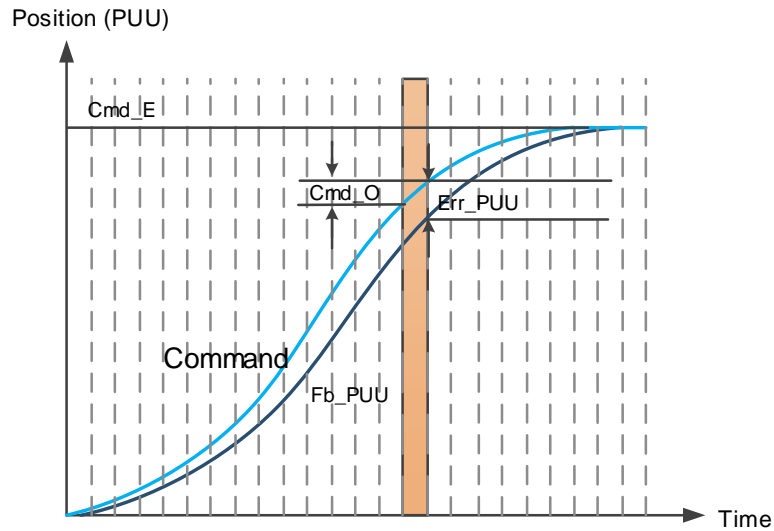

Figure 7.1.2.2 Monitoring variables status when a command is executed in PR mode
You can use the digital input (DI) to call and the digital output (DO) to monitor PR paths (refer to Table 8.1 and 8.2 for DI/O function descriptions). When you trigger the motion command with DI.CTRG [0x08], the servo operates based on the command from the internal registers. Once the execution is complete, DO.Cmd\_OK [0x15] (PR Position command complete) is set to on. When the position deviation (pulse number) becomes smaller than the value of P1.054, DO.TPOS [0x05] (Motor reaches the target position) is set to on. Then, both DO signals are on and the servo outputs the MC\_OK [0x17] signal to signify that it has completed this PR path. The operation is as shown in Figure 7.1.2.3. If you have set a delay time in this PR and the position deviation (pulse number) is smaller than the value of P1.054, DO.TPOS [0x05] is set to on.